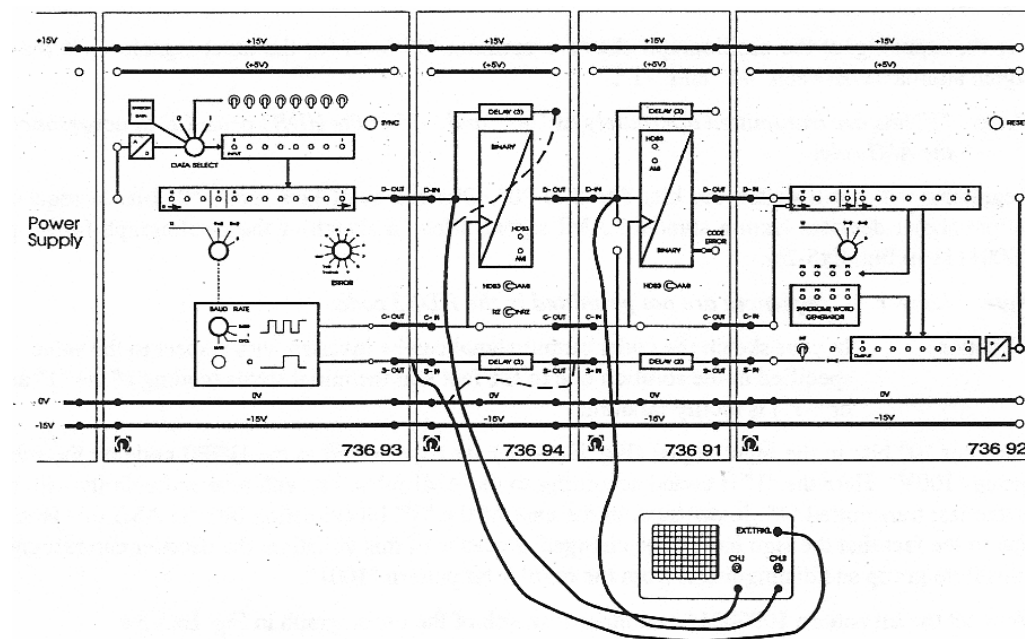

Figure 6-1 Experiment set-up for experiment 6
- Set up the experiment as specified in Figure 6-1, and switch on the power supply unit.
- Set up the experiment as specified in Figure 6-1 and switch on the power supply unit.
- The oscilloscope is initially connected in accordance with the dashed connections lines sketched in Figure 6-1.